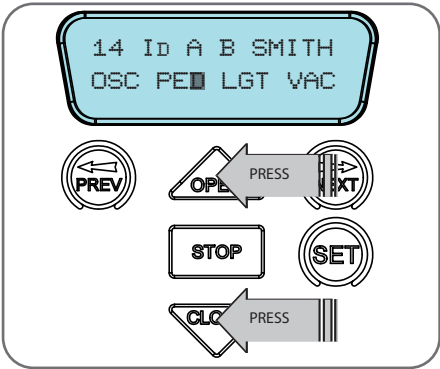

Fig F.2
- Press OPEN or CLOSE to change the displayed value (Fig. F.2). The available functions are shown below. Selecting OFF will prevent the opener responding to that button.